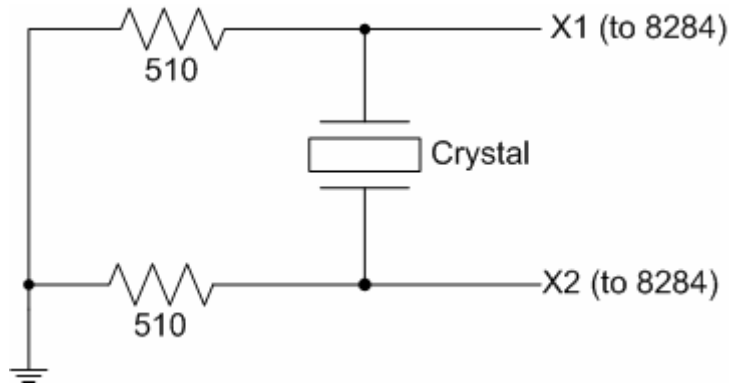

Figure 1.2: Connecting the crystal to the 8284
2. Implement the design shown in Figure 1.2 and check the output signal at CLK, PCLK, and OSC using the oscilloscope. Interface the CLK line to CPU and show your instructor the resulting signals.